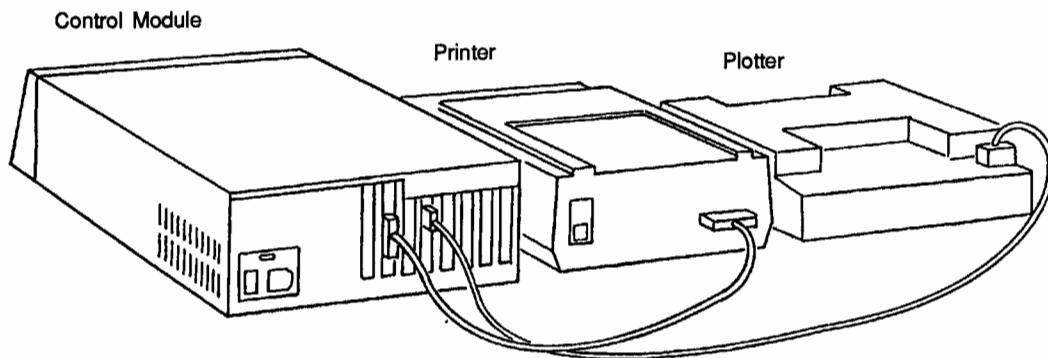

Figure 2-4. Connecting the Printer and Plotter to the Control Module
4. Connect one end of the printer cable into the input connector at the rear of the printer. Connect the other end to the output connector at the rear of the control module. Figure 2-4 shows a typical connection.